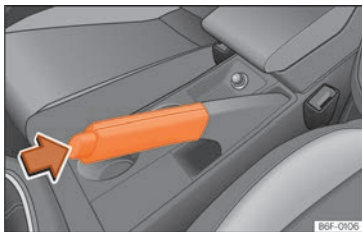

Fig. 162 Handbrake between the front seats.
- Pull the handbrake lever up >>> **Fig. 162**.
- Pull the lever up slightly and press the release knob in the direction of the arrow >>> **Fig. 162** and guide the handbrake lever down fully >>> .